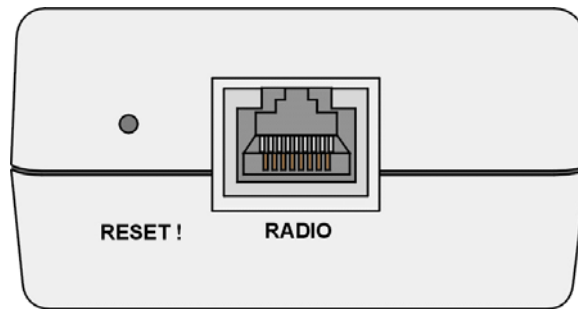

Figure 6-6: CPE-IDU-1D Front Panel
- 10 Connect the IDU-ODU cable to the RADIO connector. The RADIO connector in the CPE-IDU-1D is located on the front panel as shown in Figure 6-6.